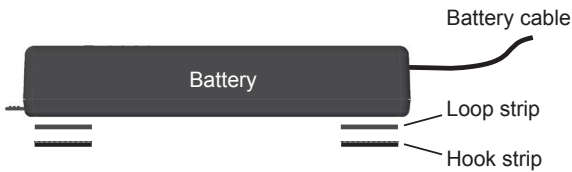

Figure 1.1
1. The battery and tray should be free from dirt, dust, grease and moisture to maximize hook and loop adhesion. Remove the adhesive backers and attach the hook and loop strips to the bottom of the battery as shown. **Figure 1.1.**